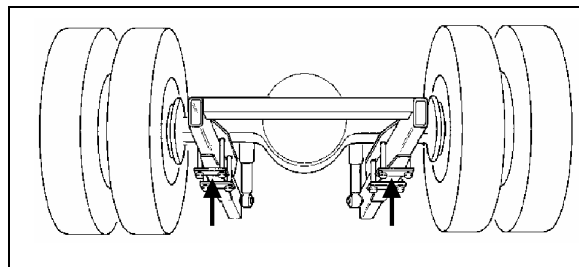

FIGURE 6: JACKING POINTS ON DRIVE AXLE H3B762
8. Install jacks under the axle jacking points to support the axle weight (refer to figure 6).